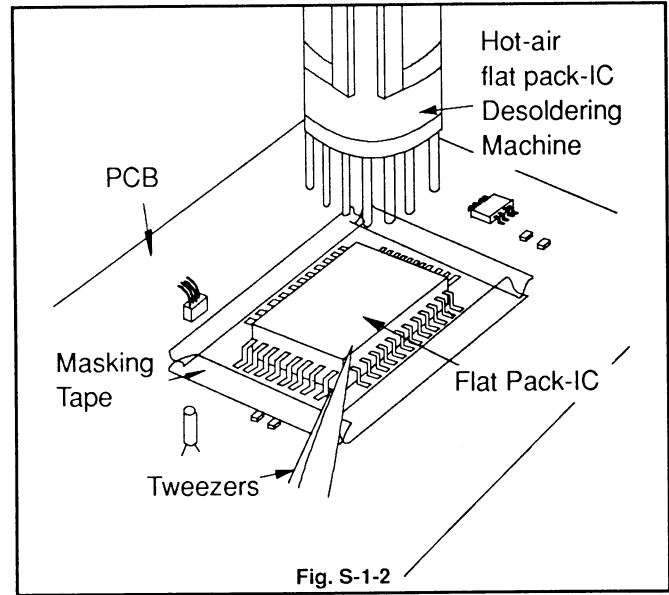

Fig. S-1-2
- 1. Do not supply hot air to the chip parts around the flat pack-IC for over 6 seconds because damage to the chip parts may occur. Put masking tape around the flat pack-IC to protect other parts from damage. (Fig. S-1-2)